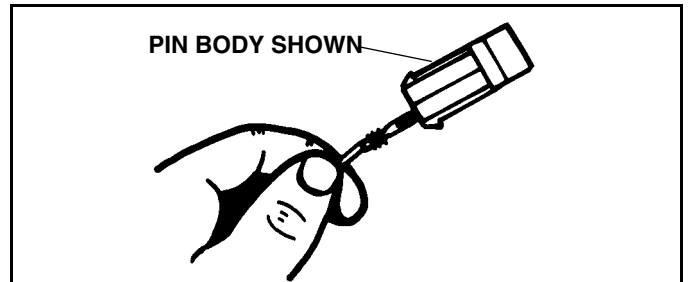

Figure 3-10
6. Push new terminal into connector body until fully seated (See Figure 3-10).